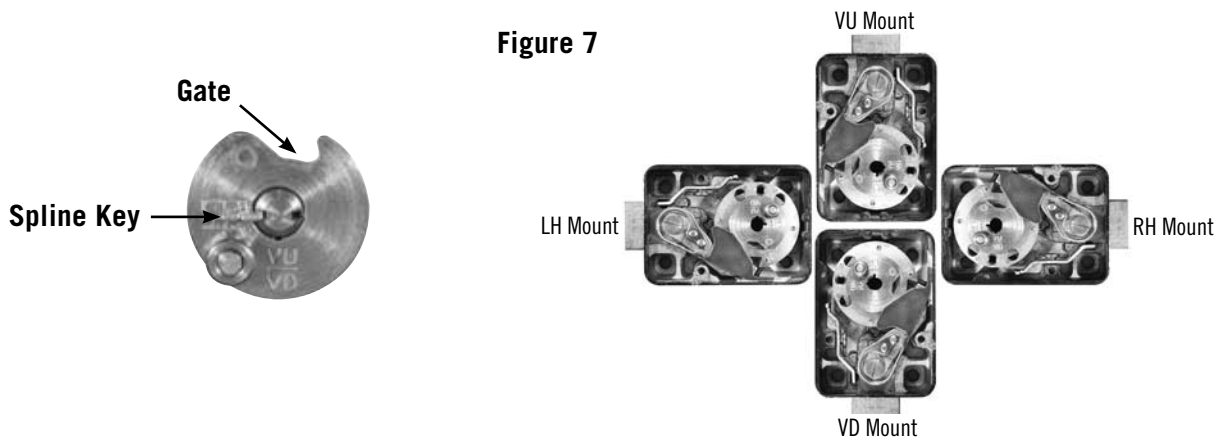

Figure 7
- Insert the dial into the lock, but remember that you should not allow the cam to slide outward against the accelerator spring, possibly damaging it. Hold the drive cam in place, positioned for its gate (Figure 7) to receive the nose of the drop lever, and thread the dial into the cam until the dial stops.
5. **Lightly** grease the bearing surface of the wheel post and drive cam bearing. Replace the wheels and parts **exactly** as they were before disassembly. Reset the wheel pack torque to a value between 16 and 24 inch-ounces. Screw the dial/spindle assembly and cam together until snug. Hold the cam and turn the dial back one complete turn; then align the spline keyways. Insert the spline key. For proper key installation, see Figure 7 on page 3.